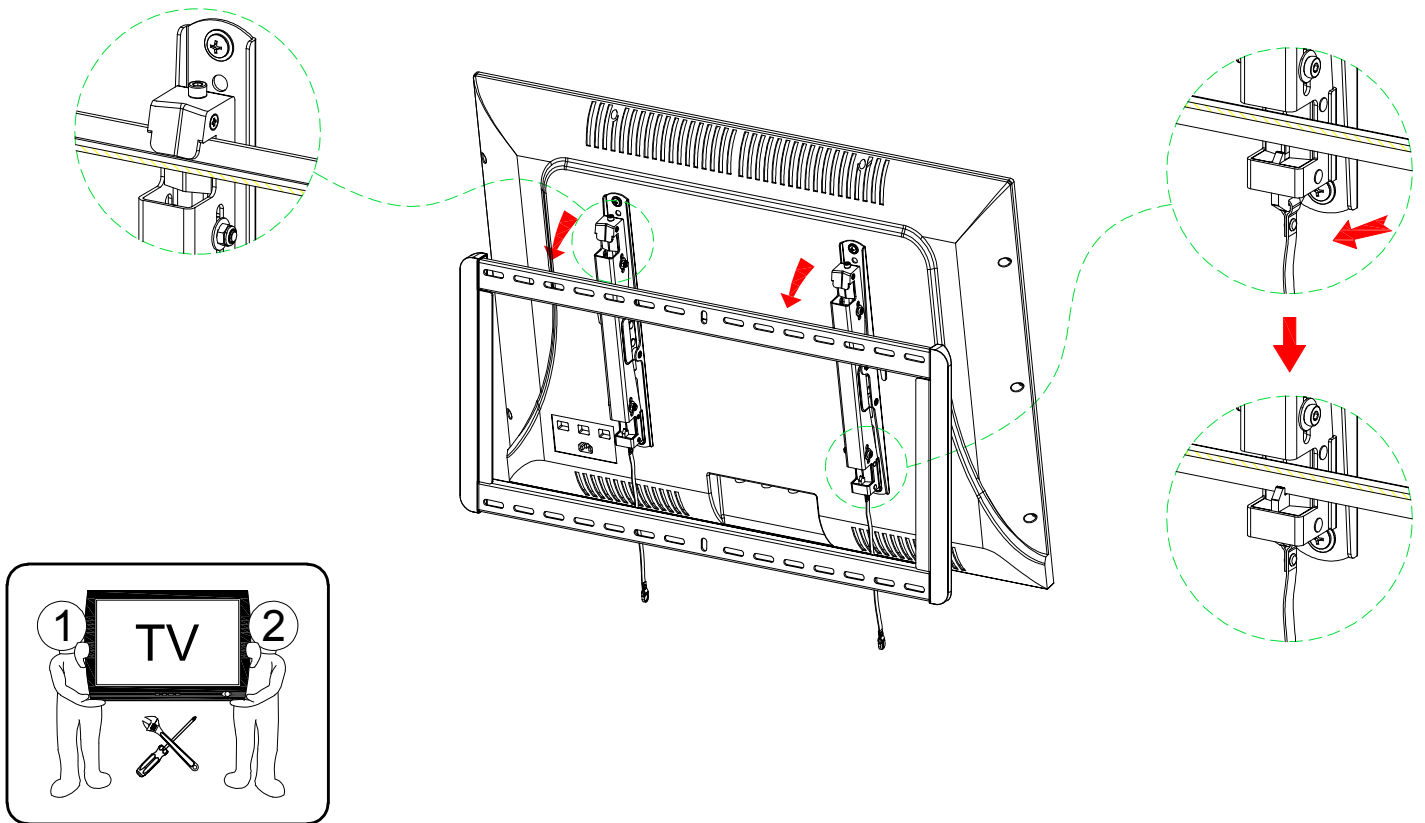

Figure 4
Step 3: Hang the pre-assembled TV unit onto the wall plate (A). Pull down straps to lock the brackets in place. (Figure 4)